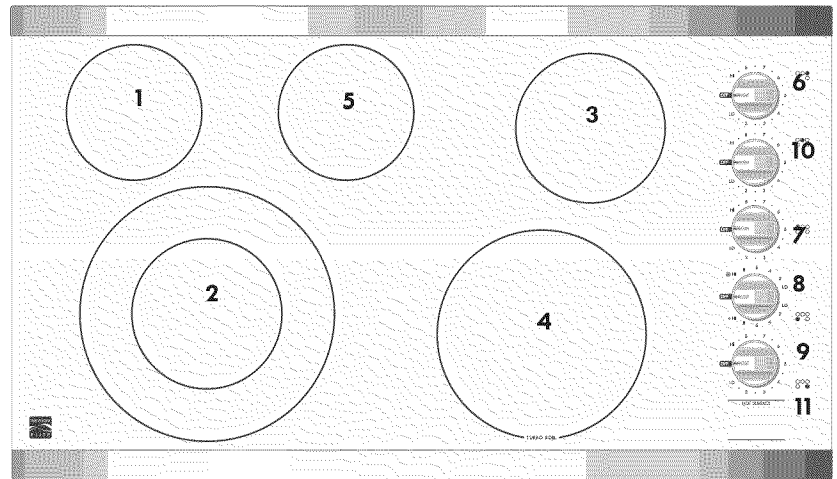

Fig. 2 - 36" Model
5. Center Rear Radiant Element (Fig. 2 only)
10. Center Rear Radiant Element Control Knob (Figure 2 only)